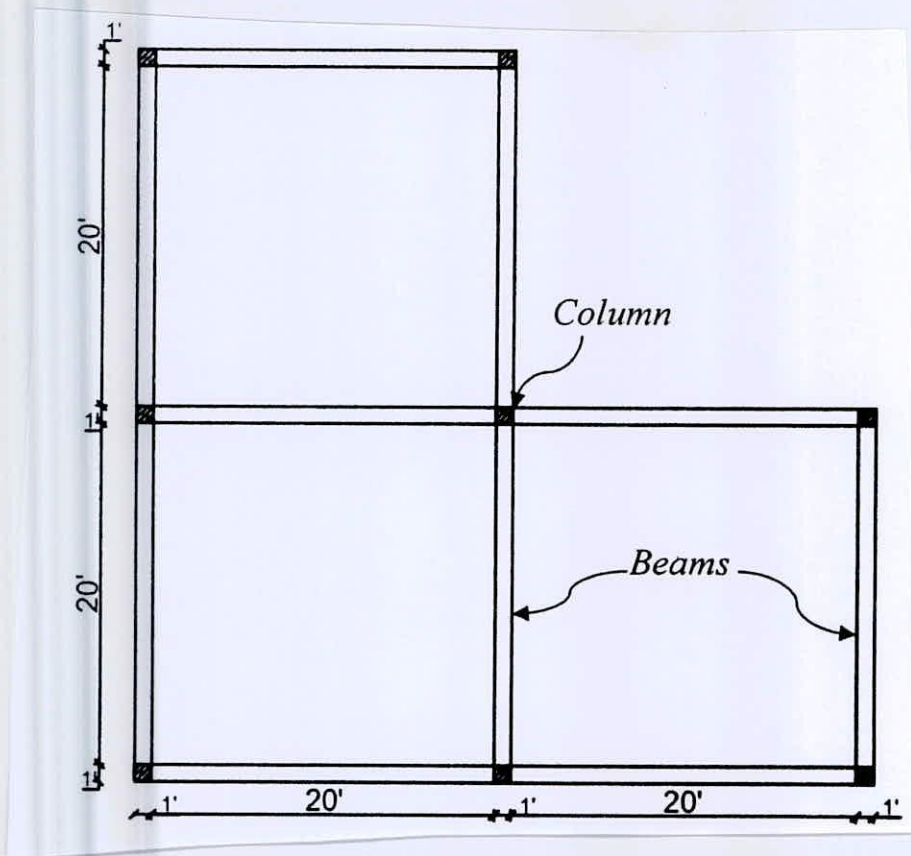

Figure: 7
8. (a) Design the slab system shown in Fig. 7. The slab is to carry a service live load of 60 psf; as for dead load, assume floor finish load to be 25 psf and permanent partition wall load to be 60 psf in addition to self-weight of slab. Given: $f'_c = 3 \text{ ksi}$ and $f_y = 60 \text{ ksi}$. Use Moment Coefficient Method. Assume beams are stiff (α_m is greater than 2.0). Show all reinforcements in sketches. (27)